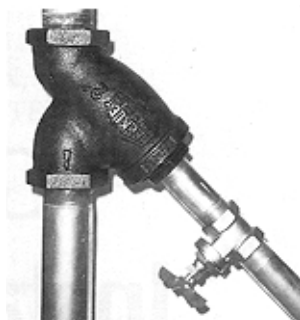

FIGURE 2
- Install at the face to face dimension shown on the drawing. Make sure the mating flanges are clean and are standard steel flat faced or no more than the 1/16" raised face type (See Figure 2).
Vertical piping, frequently found at pump inlets, necessitates the use of a "Y" strainer or a tee type basket strainer. Most basket strainers are intended for horizontal or slightly inclined piping. Special attention must be given, however, to maintaining the position of the debris collection chamber and the drain (blowdown) connection in their lowest position (Fig. 2). A "Y" strainer in vertical piping must be placed with its screen in the downward position to trap the sediment in the debris collection chamber.